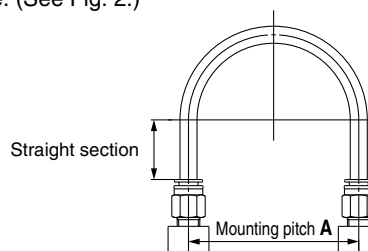

Fig. 1 Recommended piping
1. When installing piping in the one-touch fitting, make sure there is sufficient slack to the tube length as per the recommended piping conditions shown in Figure 1.